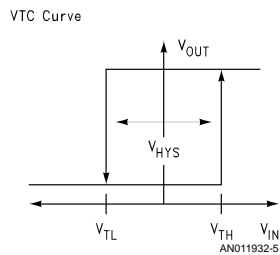

FIGURE 4. Hysteresis Voltage
**$V_{HYS}$ —Hysteresis.** The absolute difference in voltage value between the positive going threshold and the negative going threshold. See Figure 4. Hysteresis is the most widely symbolized parameter. Alternate symbols include:  $V_{HY}$ ,  $V_{T+}-V_{T-}$ ,  $V_{HYS}$ ,  $\Delta V_{TH}$ ,  $V_{TH}-V_{TL}$ , and  $V_{HST}$ .